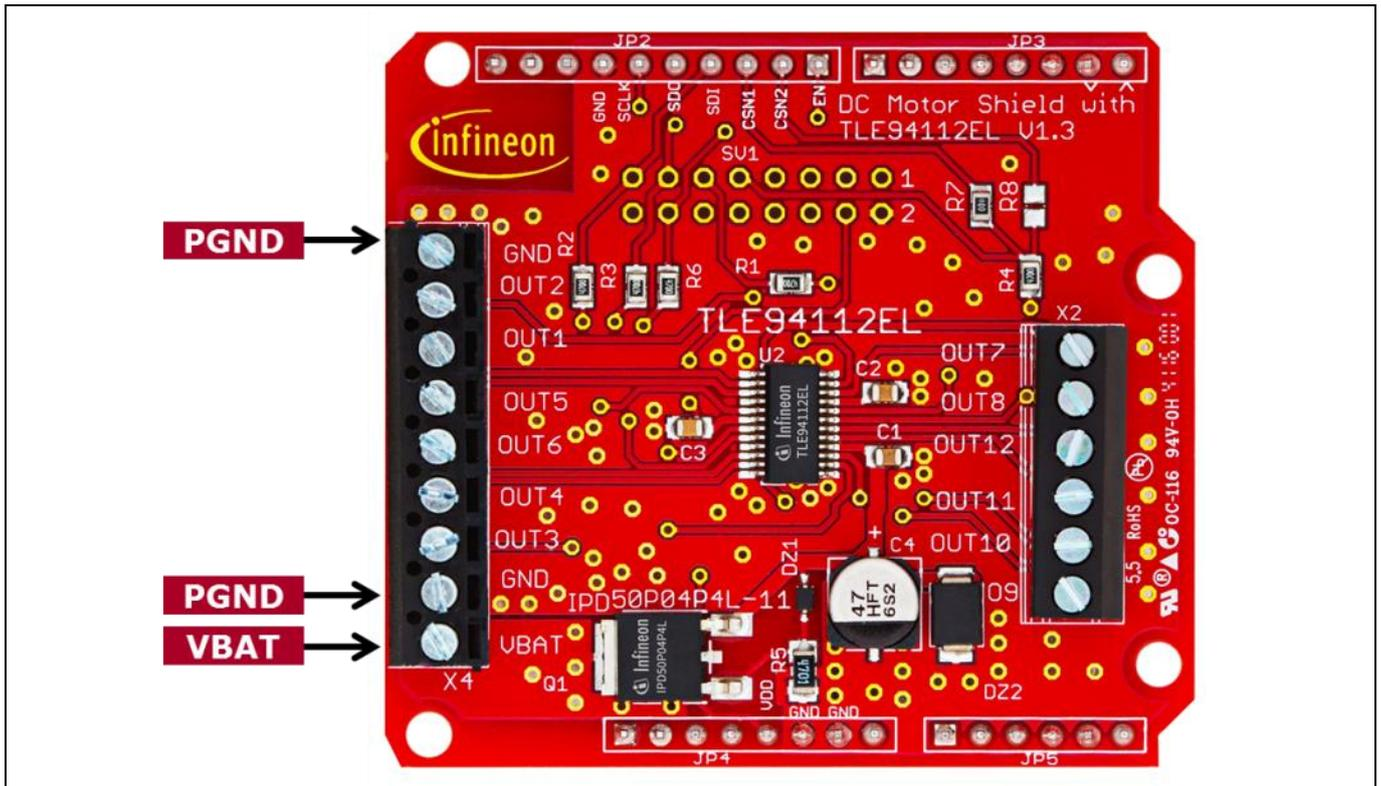

Figure 16 Supply connection
- Connect the USB cable to e.g. the Arduino Uno R3 (Figure 16) or the micro USB to the XMC 1100 Boot Kit.
- Connect the DC adapter to the Power Shield (VBAT and GND, see Figure 16).